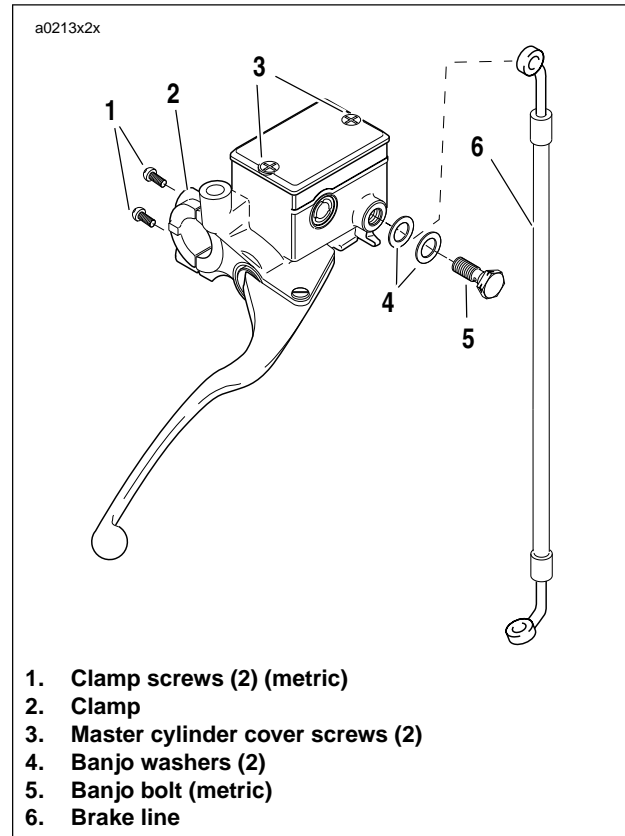

Figure 2-27. Front Master Cylinder
3. See Figure 2-27. Remove banjo bolt (5) (metric) and two banjo washers (4) to disconnect brake line (6) from master cylinder. Discard banjo washers.
1. See Figure 2-27. Fasten master cylinder to handlebar by installing clamp (2) and screws (1) (metric). Tighten to 80-120 **in-lbs** (9-14 Nm).
5. See Figure 2-27. Remove the two master cylinder cover screws (3), cover and cover gasket.
9. See Figure 2-27. Attach master cylinder cover and cover gasket with the two cover screws (3). Tighten to 9-13 **in-lbs** (1.0-1.5 Nm).